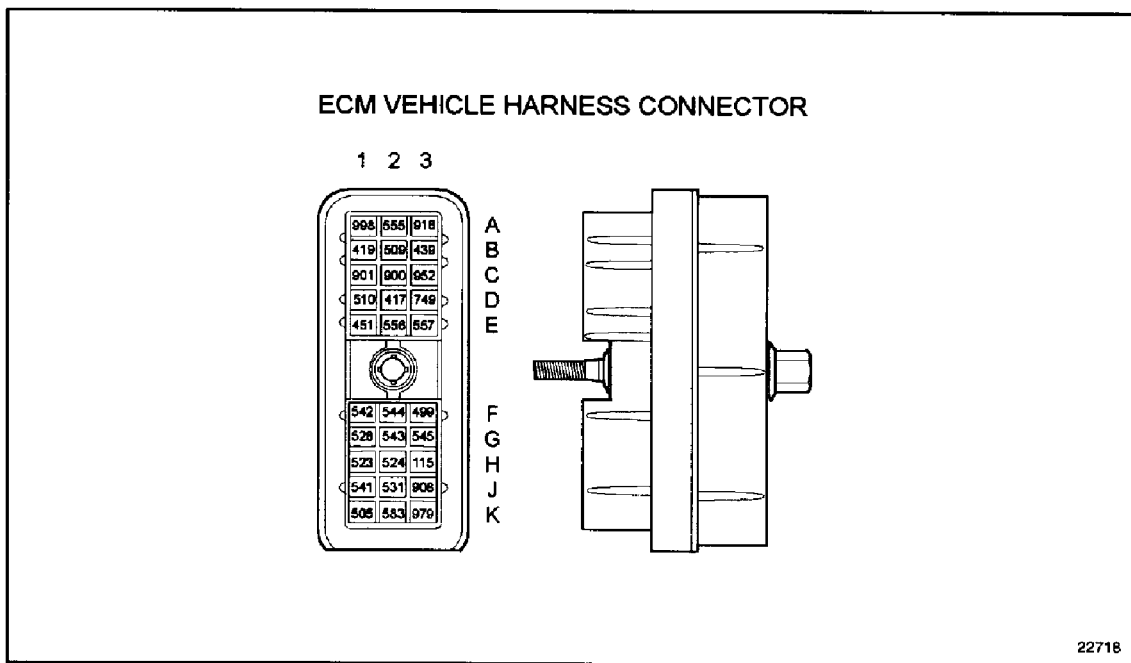

Figure 54-6 ECM Vehicle Harness Connector
3. Measure resistance between sockets E2 and a good ground. See Figure 54-6.